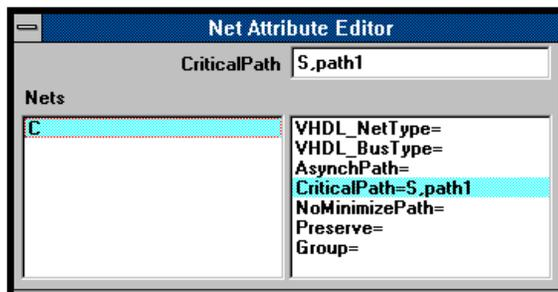

Figure 1-10. Net Attribute Editor
24. Select the CriticalPath= attribute and type `S,path1` in the text box as shown in Figure 1-10. The S signifies that Start of the path and path1 comprise the unique name for the path attribute. You will not see anything on your schematic for this attribute.